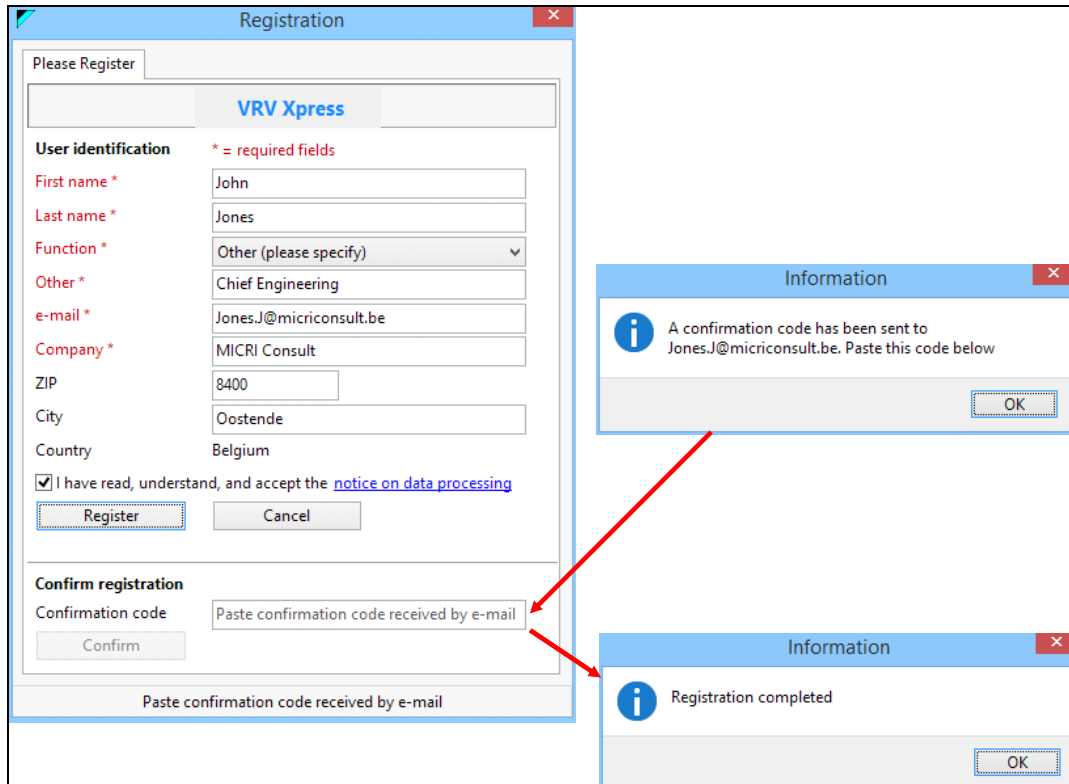

Figure 17: The final registration
2. VRV\_Xpress now extends the registration window to allow you entering a confirmation code and after a short moment, the Daikin server will send you a mail with that confirmation code. Figure 17 shows the window after having clicked the "**Register**" command button, and waiting for the mail. The registration code is a large numeric code, e.g. 2131974122.